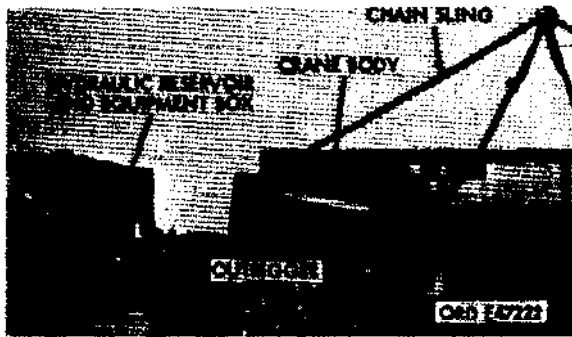

Figure 434. Removing crane body
- (7) Attach a chain sling (fig. 434) and overhead hoisting equipment to crane body, and lift body from vehicle.
- (1) Using chain sling (fig. 434) and hoist, lift crane body into position on truck chassis.